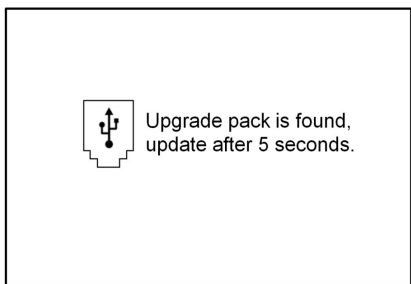
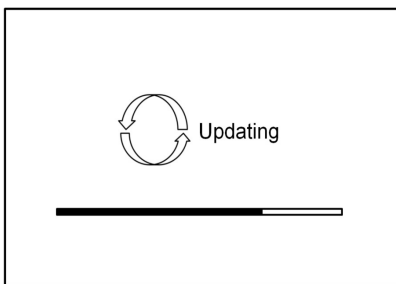
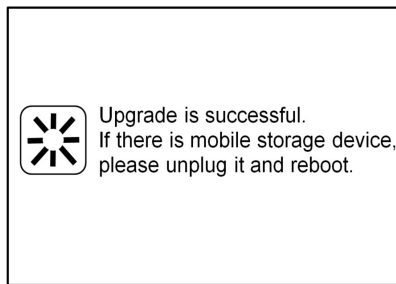

Figure 91
Figure 92
Figure 93
2) Turn on the machine switch, and the machine will automatically recognize the USB flash drive information and display it for 5 seconds before the upgrade starts, as shown in Figure 91 below. The machine continues to upgrade, and the interface shown in Figure 92 below appears. After the machine software upgrade is completed, the interface shown in Figure 93 will appear. At this time, please unplug the USB flash drive and restart the machine. The software upgrade of the machine is completed.